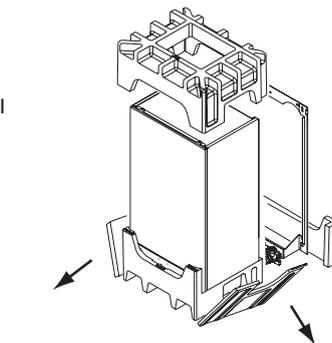

Fig. 42
b) Slide the upper polystyrene cap off the boiler. Break off the side and rear of the lower polystyrene cap. The wall plate can now be removed (Fig. 42).